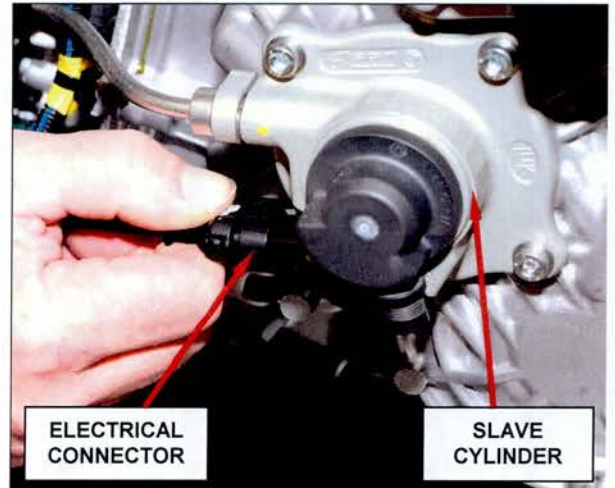

Figure 15 – Slave Cylinder Electrical Connector
44. Disconnect the slave cylinder electrical connector (Figure 15).